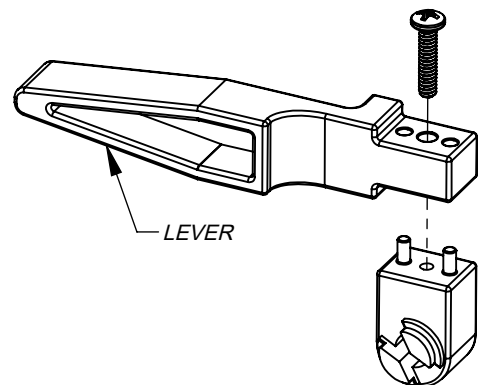

Figure 7
1) Make sure the Latch Cam Assembly is in the correct orientation (Figure 6). If the gate is a left-hand gate, it should be in the left-hand configuration. If the gate is a right-hand gate, it should be in the right-hand configuration. To change the configuration of the Latch Cam Assembly, remove the pan head screw, properly reposition the lever, and secure with the pan head screw (Figure 7).